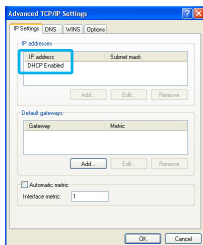

Figure 5
6. The <Advanced TCP/IP Settings> dialog box appears. At the **[IP Settings]** tab, check that the **IP Address** is set to **Enable DHCP**. (Figure 5)